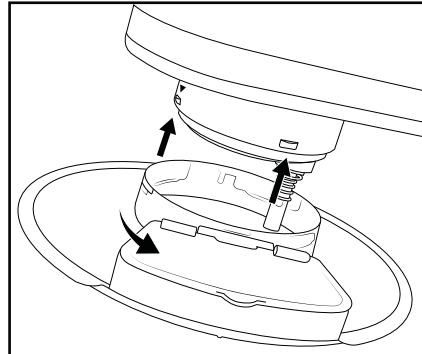

Fig. 1
- 1) Press the release lever ② upwards and move the swivelling arm ① to the highest position.
- 2) Attach the lid ⑯ to the swivelling arm ①:
- Attach the lid ⑯ so that the arrow symbol ▼ on the swivelling arm ① points towards the middle of the arrow ←→ on the lid ⑯ (fig. 1). The filling nose ⑬ will be pointing towards the front of the appliance.
- Turn the lid ⑯ anticlockwise (towards 🔒) until it is firmly attached.